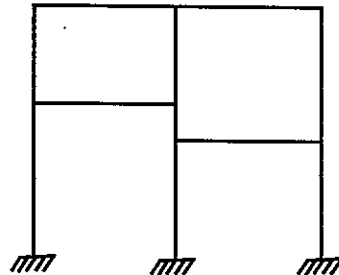

Fig.1
- Q.2 Define static indeterminacy. Calculate internal and external static indeterminacy for the structure shown in Fig 1.